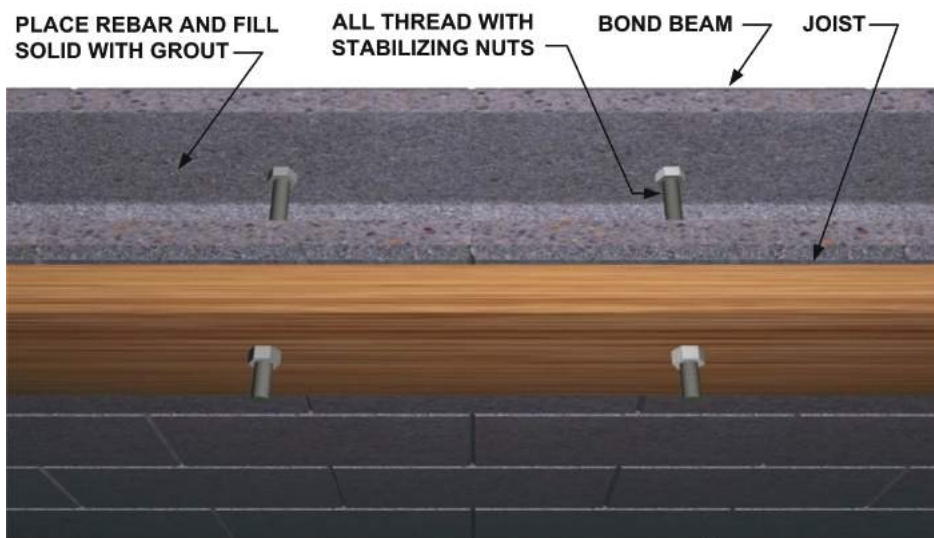

Fig 4.45
Because joists are placed between floors, the header joists must attach directly to the bond beam so that the floor/ceiling loads are carried through the external walls (Fig. 4.45).
6. Push the all-thread back so that it touches the back of the core leaving the one hex nut at the back. Make sure that the back nut is fully engaged in the thread (*Fig. 4.45*).